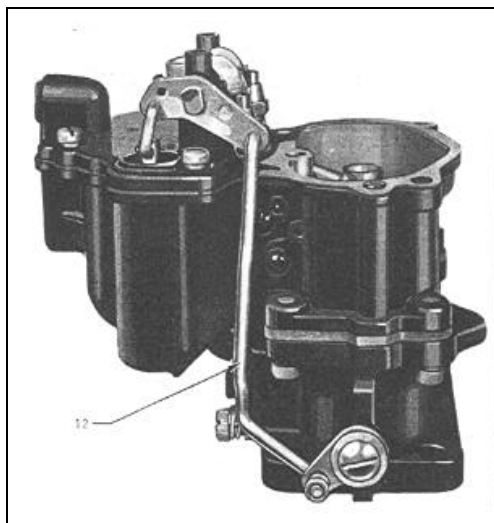

Figure 431
(125) Install fast idle connector link (49) and spring (50) and pin spring to throttle shaft and lever assembly (Figure 431).
(141) Pump Adjustment: With pump connector link in short stroke (lower hole) adjust throttle connector rod (12) by bending to give 1 1/2" pump stroke (piston travel) (Figure 431). Full pump stroke is obtained by moving throttle from closed to wide open position. Travel can be checked by marking shaft at wide open position, and fully closed position, and gauging distance between marks.